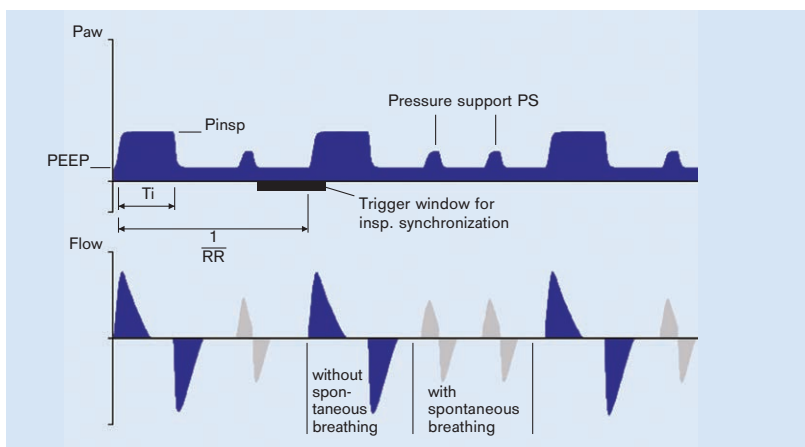

Figure 23: PC-SIMV
- permitting spontaneous breathing during the whole breathing cycle (Figure 23)